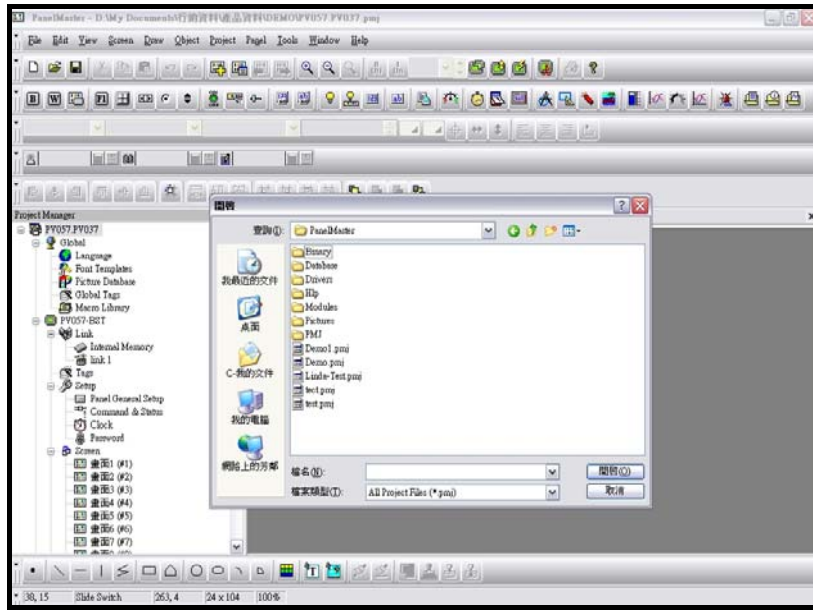

Figure 2-92 Step 1 New a project\_create a project name and directory
**Step1 : Click 【File---New】** To open a new project , see figure 2-92 shown as below.